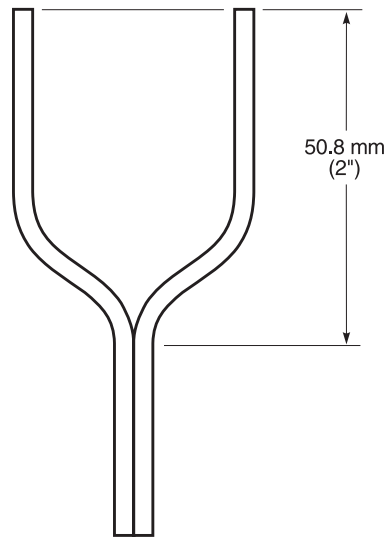

Figure 6. Preparing the Wire Pair for Insertion into the Quiet-Front Connector Modules
- 8 Slit the ends of the leads of each drop-wire pair and bend as shown in Figure 6.